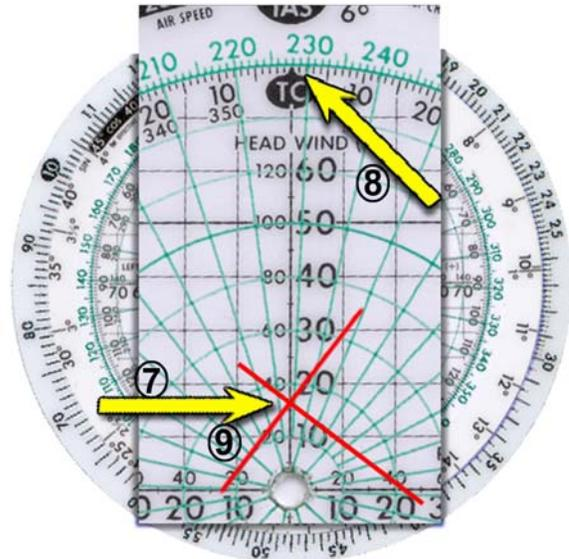

Figure 4.6-10 In-Flight Wind Calculation 7
8. The direction of the wind is read on top of the TC arrow (228°). (Figure 4.6-10)